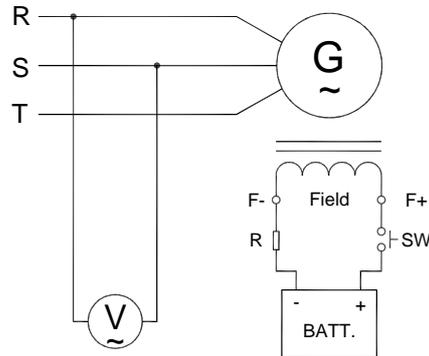

Figure 2 Manual Field Flash
3.2.1 Total of 3 sets of independent sensing inputs, each input voltage equals to 120 / 240V (Center), can be series into Y or  $\Delta$  to connect to the generator output (3 Phases) for example R-T, T-S, S-R, or joint connected into a single phase sensing (See Figure 2 to 13).
- 5.2.1 Shut down generator, disconnect the wiring between AVR and generator then flash the field. Flashing duration = 3 seconds. (See wiring in Figure 2)
- 5.2.2 Restart generator and measure the residual voltage by AC Voltmeter, if it is still less than 5 Vac, repeat the previous process, after several times, the residual voltage still cannot be built, Kutai EB500 is strongly recommended, see Figure 2.